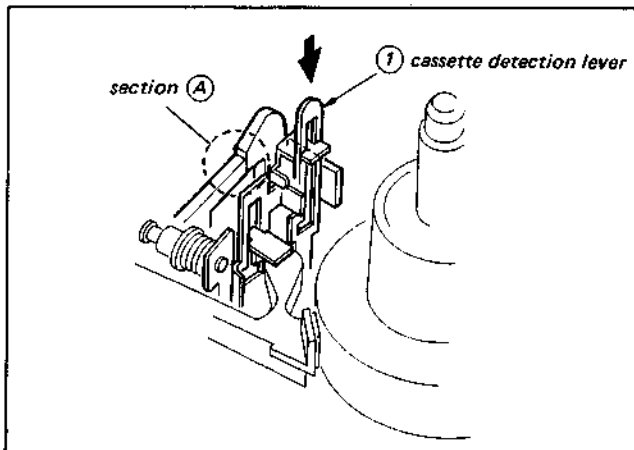
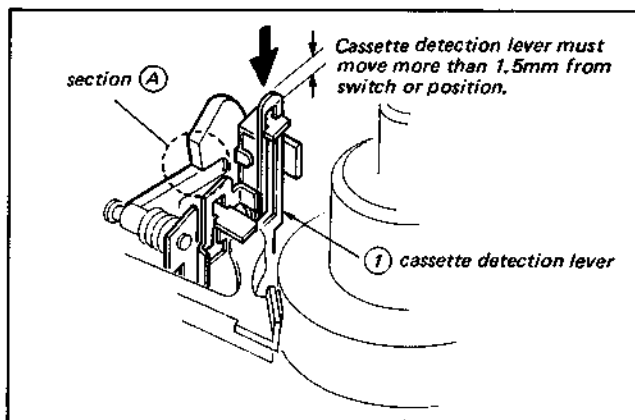

Fig. 3-20. Operation check of cassette-in switch
Fig. 3-21. Operation check of cassette-in switch
2. Set section (A) as shown in Fig. 3-20.
3. Confirm that the microswitch mounted on the underside of the machine does not turn on when the cassette detection lever (1) is pushed in the arrow direction.
4. Set section (A) as shown in Fig. 3-21.
5. Confirm with a click that the microswitch mounted on the underside of the machine turns on when the cassette detection lever (1) is pushed in the arrow direction.
6. Adjust the mounting position of cassette detection (1) so that it moves more than 1.5mm further from the point where the click is heard.
Note: • The problem where the cassette-lift assembly does not lock occurs if the microswitch turns on in the condition shown in Fig. 3-20.
• The problem where the modes other than the EJECT mode cannot be set up occurs if the microswitch does not turn on in the state shown in Fig. 3-21.